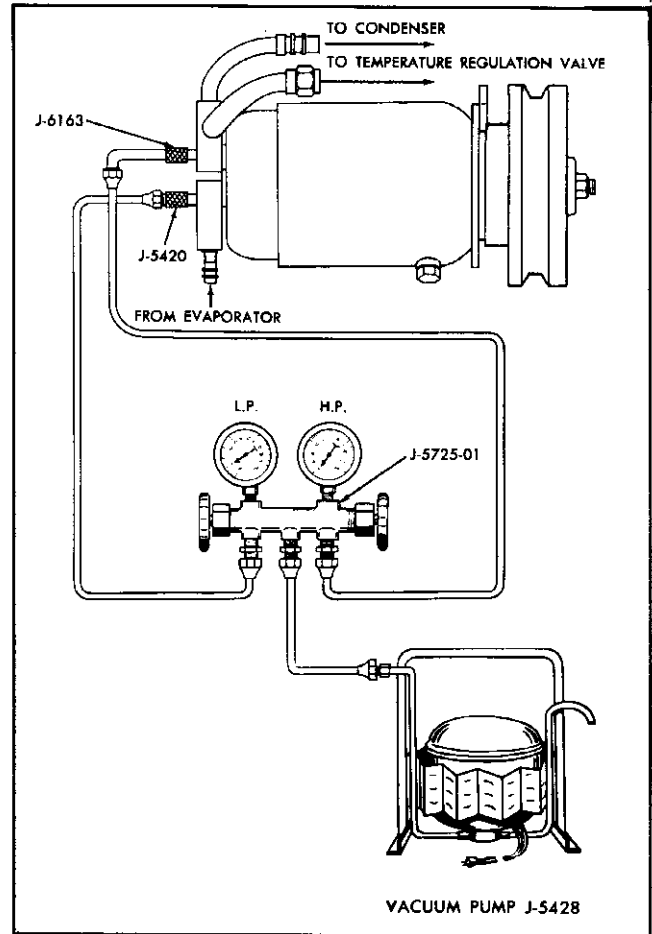

Fig. 6-55 Schematic Showing Connections and Tools for Evacuating the Refrigeration System
2. If gauge set is not already connected to the compressor, connect gauge set to compressor as follows (Fig. 6-55):
3. Attach a flexible gauge hose to the center fitting of the gauge set and attach the other end of this hose to the vacuum pump J-5428 or J-5428-01 (Fig. 6-55).